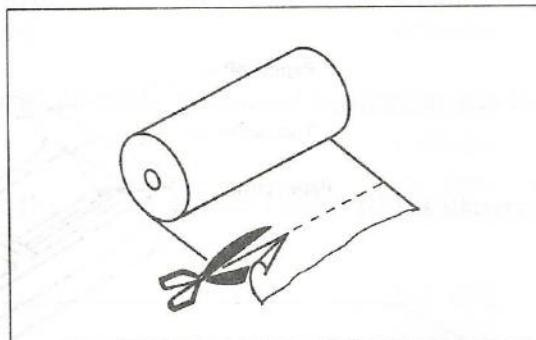

Fig. 1
- (1) Press the POWER switch (turn the printer on) and put the printer in the local mode.
- (2) Cut and remove the irregular paper end. (Figure 1)